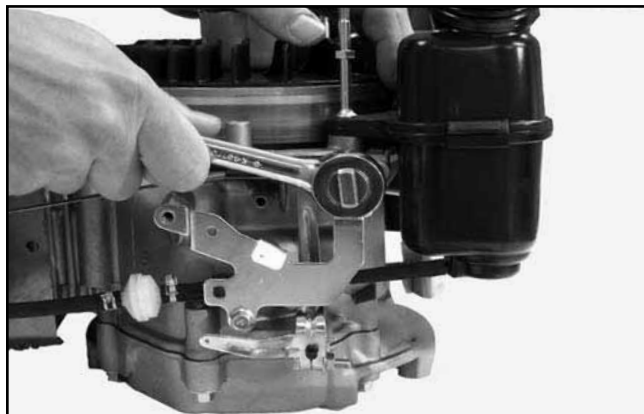

Figure 8-21. Removing Speed Control Bracket.
1. Remove the two hex flange screws securing the speed control bracket. See Figure 8-21.